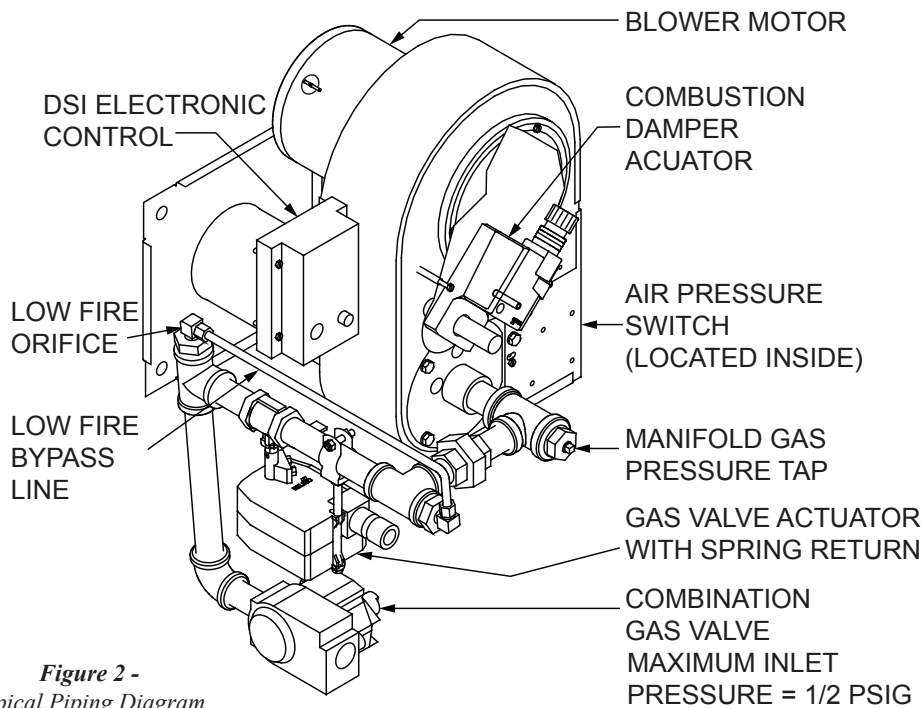

Figure 2 -
- If the burner piping must be rearranged because of space limitation, be sure to carry out the general arrangement shown in Figure 2. Install the combination valve in any position except up-side down.